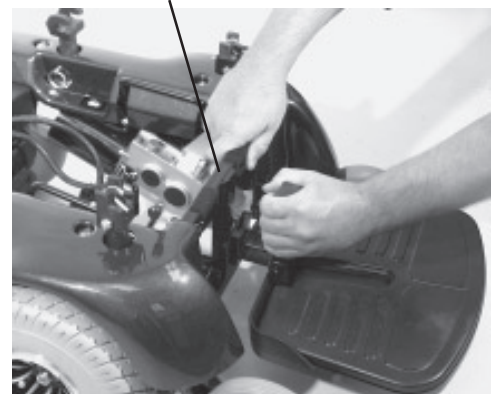

Figure 5. Remove the Footrest
1. Remove the footrest by sliding the mounting bracket up the vertical bar of the front frame until the tabs on the mounting bracket can be pulled forward through the matching slots in the front frame. See figure 5.